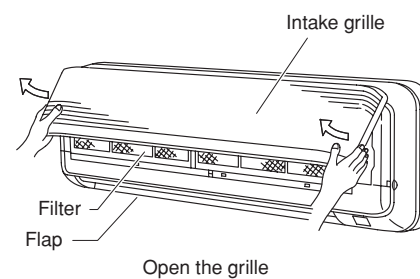

Fig. 3-119
- (1) Lift up on both sides of the air-intake grille to open it. (Fig. 3-119)
- (2) Remove the filter. (Fig. 3-119)